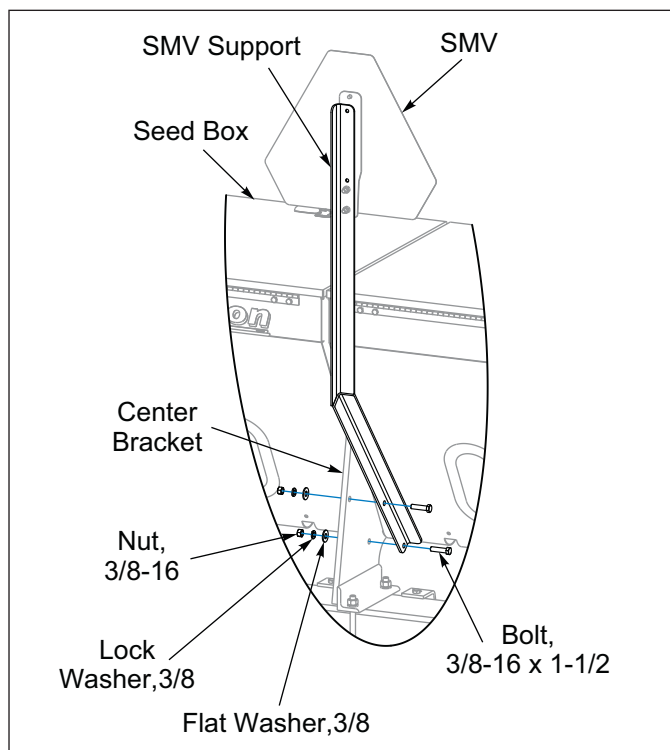

Figure 2-1: SMV Support
4. 8FT and 10FT Seeders, install SMV Support to Seed Box Center Bracket with 3/8-16 x 1-1/2 Bolts, Flat Washers, Lock Washers, and Locknuts. **See Figure 2-1.**